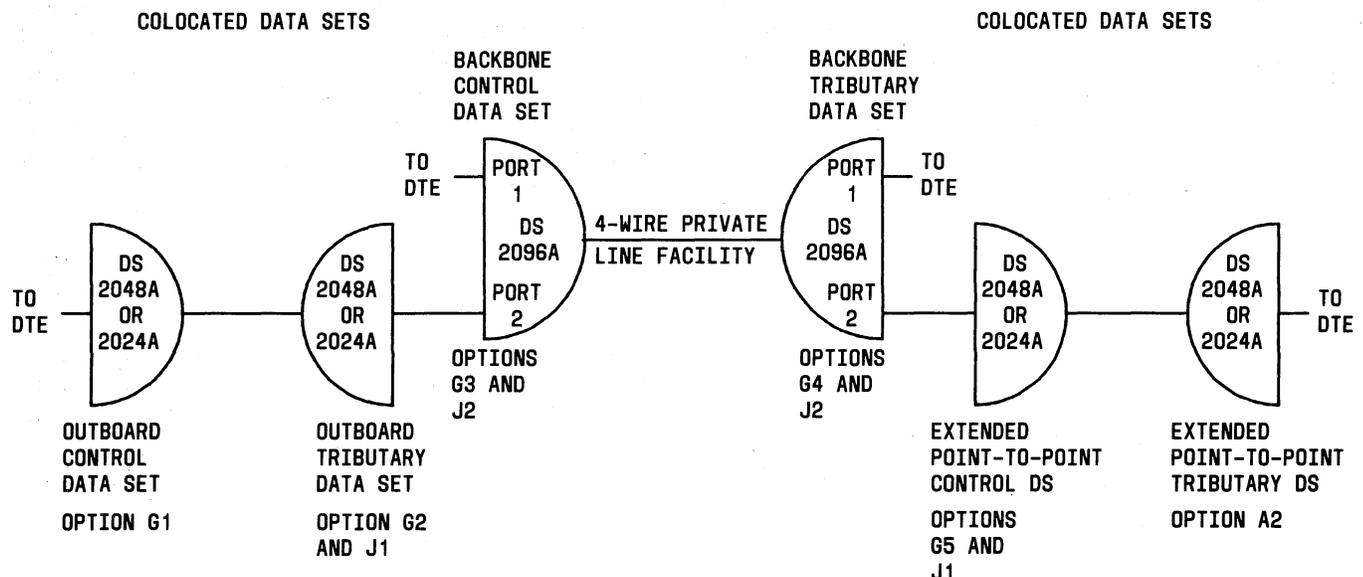
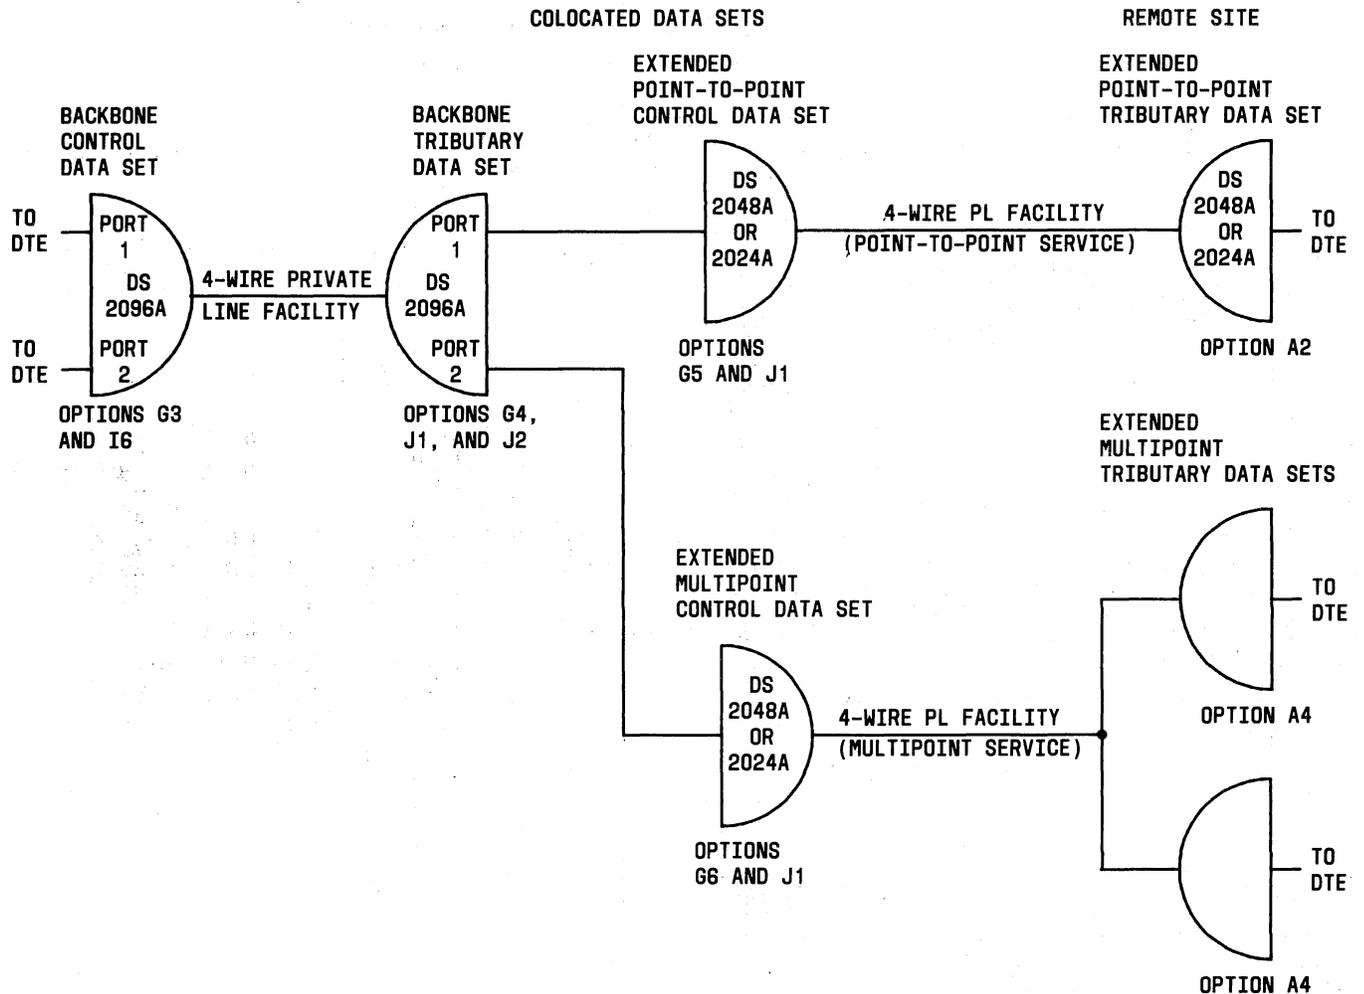
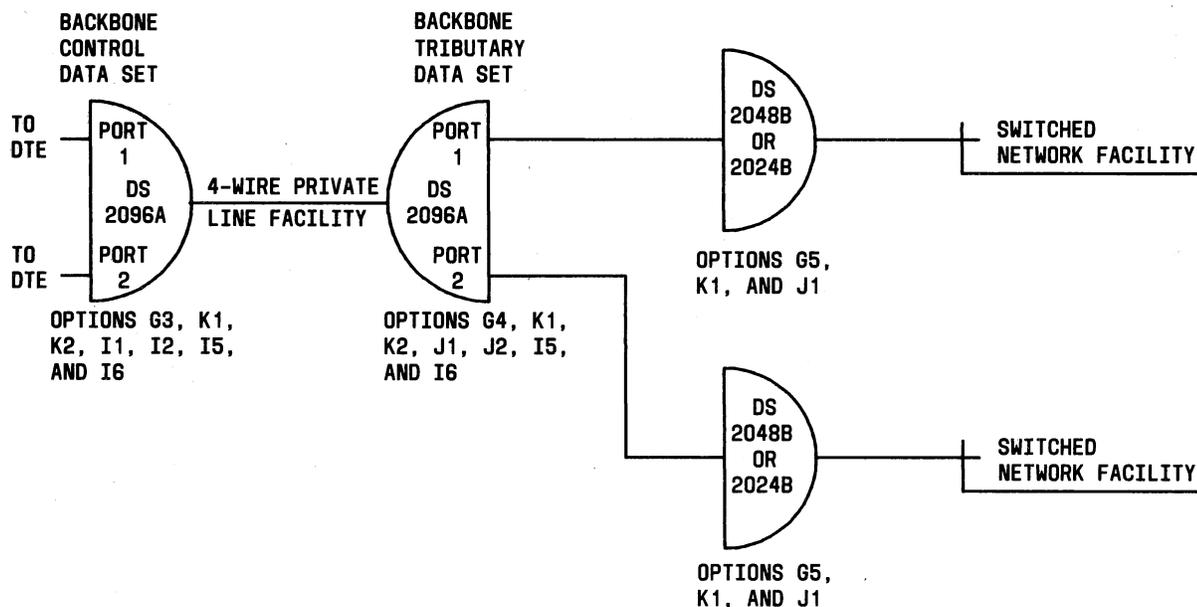
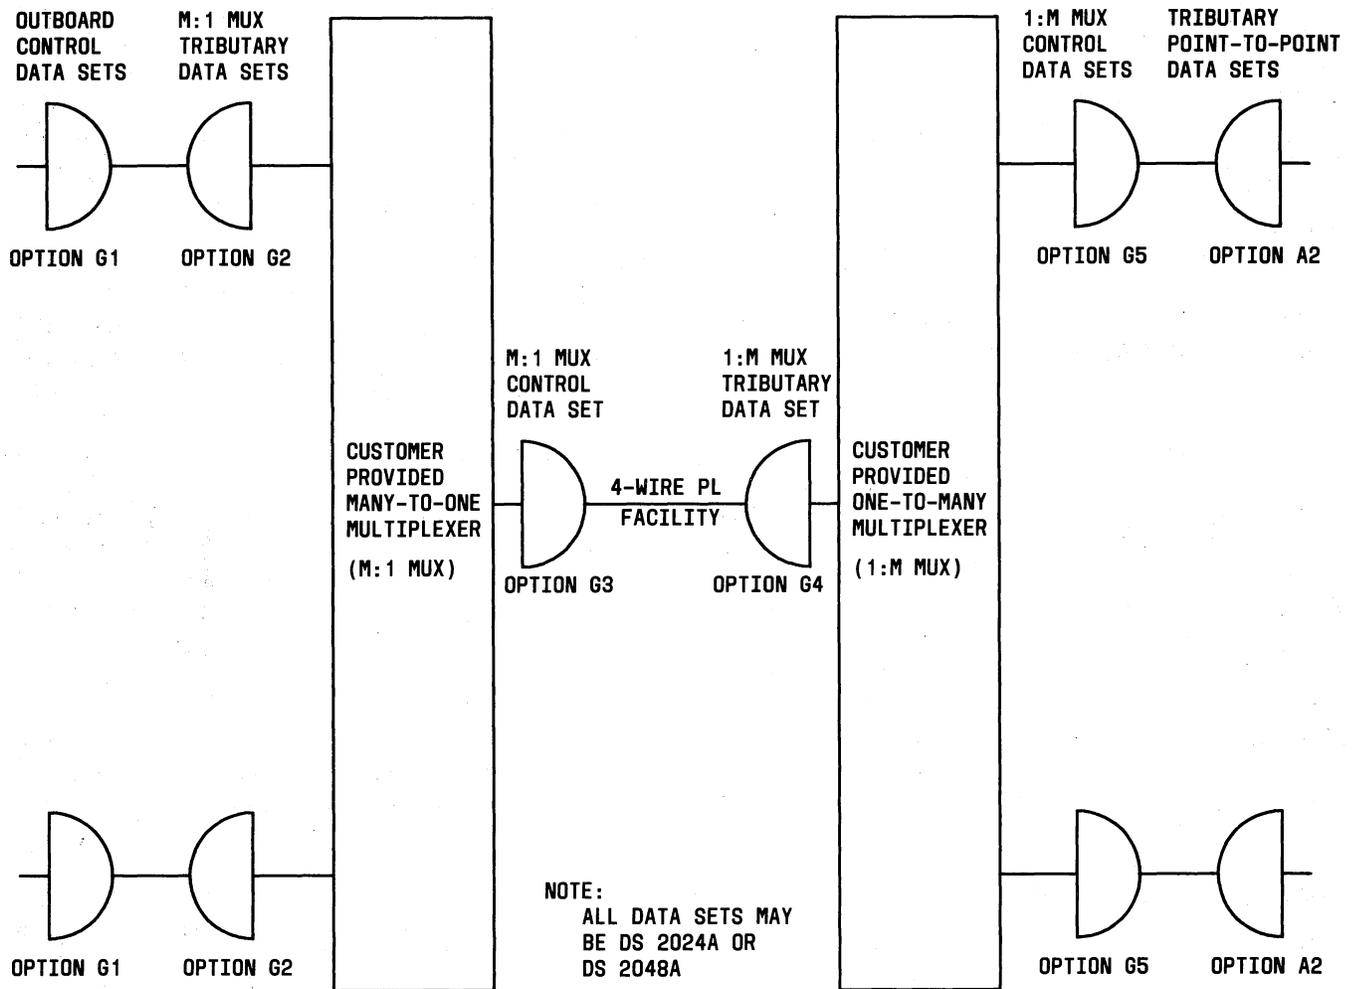

Fig. 31—Example of Category G and J Doubly-Extended Service Options
Fig. 32—Example of Category A, G, I, and J Extended Service Options
Fig. 33—Example of Category G, I, J, and K Dial-In Extension Service Options
Fig. 34—Example of Category A and G Multiplexer Service Options
**3.156 Double Extension Outboard Control (G1):** This is the control data set (at the CPU) for a doubly-extended service (Fig. 31). It communicates with an outboard tributary (G2) data set and is similar to a point-to-point control data set. System status is monitored and displayed by this data set.
tributary data set on a point-to-point circuit with an outboard control data set (G1). Refer to Fig. 31 for an illustration of this service. When no J1 through J4 options are installed this option will identify a tributary data set as a concentrator or multiplexer.
**3.158 *Double Extension Backbone Control or Many-to-One (M:1) Multiplex Control (G3):*** This option is intended for the backbone control data set (a DS 2096A) of an extended service (Fig. 32). The control backbone data set DDU polls the tributary backbone data set (also a DS 2096A). The diagnostic channel is shared over four primary channels. All tests and commands are allowed. When used with colocated data sets for doubly-extended service (Fig. 31), one or more J1 through J4 options (extended service addressing) should be installed. When they are installed, the system status will be reported upstream to the outboard control data set. Refer also to Fig. 33. This option is also used in the control data set for an M:1 multiplexer or concentrator circuit (Fig. 31).
**3.159 *Backbone Tributary or One-to-Many (1:M) Multiplex Tributary (G4):*** This is the tributary backbone DS 2096A for extended service (Fig. 32). The data set responds to polls from the control data set and polls its colocated sets. Messages are sent upstream to the backbone control data set. The diagnostic channel is shared over four primary channels. The test and command menus are limited to prevent service disrupting tests. Those ports which are extended must have one of the J1 through J4 options installed. When no category J options are installed, this option defines a control data set for a 1:M multiplexer or concentrator circuit (Fig. 34).
**3.160 *Extended Point-to-Point Control or One-to-Many (1:M) Multiplex Control (G5):*** This data set is similar to a point-to-point control data set (option A1). It stores a poll list of its connected tributaries and polls them for status, which is reported upstream to the backbone control data set. The front panel operation allows all tests and commands. The DDU uses an identification interface, which requires one of the J1 through J4 options. When no J options are installed this option will identify a control data set at a concentrator or multiplexer. Refer to Fig. 31 through 34.
**3.161 *Extended Multipoint or One-to-Many (1:M) Multiplexer Multipoint Control (G6):*** Similar to G5 above but with no retrain feature enabled in DS 2048A or 2096A. Installed in the colocated control data set for an extended multipoint network. Refer to Fig. 32.